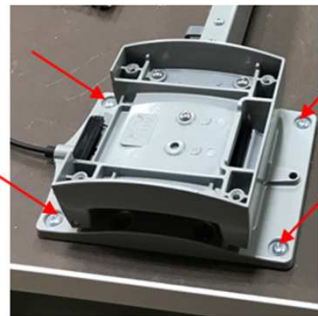
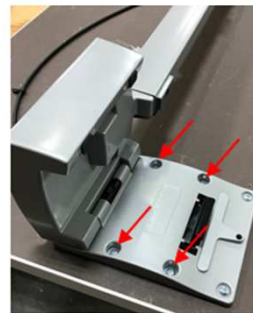

Fig 1A
Fig 1B
3. Place the flip mechanism assembly on the work surface as shown in Diagram-A, aligning the front outside screw holes in the flip assembly with the points marked in step 2. Mark the positions for the remaining mounting screw locations. Activate the tilt release handle to access holes in center of mount plate. There are a total of 16 holes (see Fig1A & Fig1B) Drill pilot holes 1/8"Ø x 1/2" deep in screw locations marked.
4. Use the (16) #12x1" panhead screws provided with the flip mechanism to secure the mechanism to the top. ****Note that the cables should be routed between the stretcher rail and the bottom side of the work surface**.**
5. Locate the tilt release handle per Diagram-A. Handle is centered side-to-side. Mark and drill pilot holes. Use (4) #12x1" panhead screws to attach.
6. Use (6) cable retainer clips and (6) #8x5/8" panhead screws to secure cables to bottom of work surface.
7. Align the mounting plate of leg with holes in the flip mechanism. Use (4) 1/4-20x 1/2" machine screws to attach each leg.